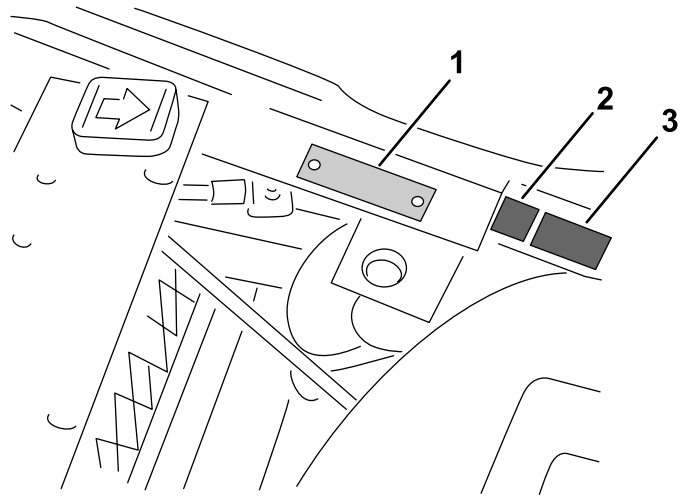

Figure 12
- Apply the CE mark decal and the production year decal near the serial plate on the footrest support (Figure 12).